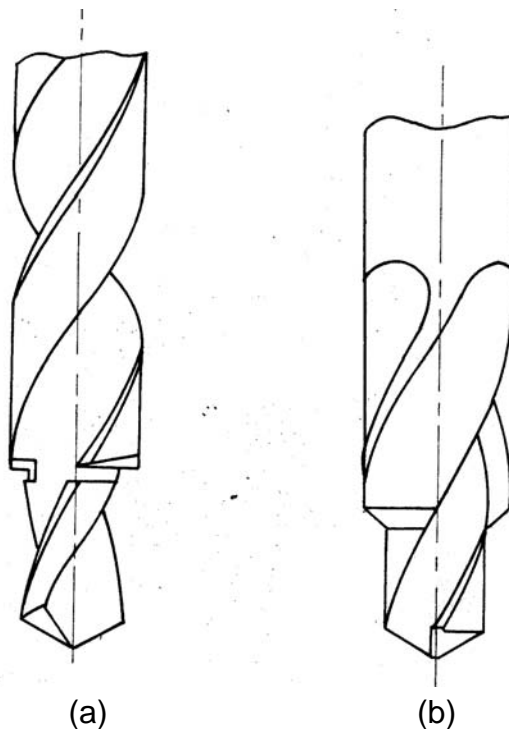

Fig. 4.2.12 (a) Stepped drill and (b) subland drill
- △ Step drill and subland drill (Fig. 4.2.12) : for small holes with two or three steps